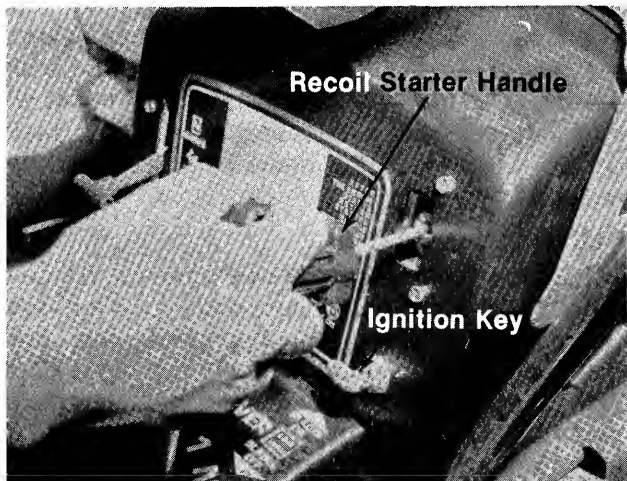

FIGURE 21.
Recoil Model. The key must be turned to the "ON" position before you pull the recoil handle to start the engine. Turn the key to the left to the "OFF" position to stop the engine. Remove the key when the unit is not in use. See figure 21.
The recoil starter handle is located on the right side of the dashboard. The recoil starter handle can either be pulled while seated on the rider or pulled while standing behind the rider. The ignition key must be on before the engine will start. After the engine starts, the recoil starter handle must be returned and locked into the dashboard before the blade or clutch are engaged. The engine will stop if these instructions are not followed. See figure 21.
7. a. **Recoil Model.** Turn the ignition key to the "ON" position. Twist the recoil starter handle until it is free and pull it with a quick steady motion. After the engine starts, return the recoil starter handle and twist it until it locks. See figure 21.